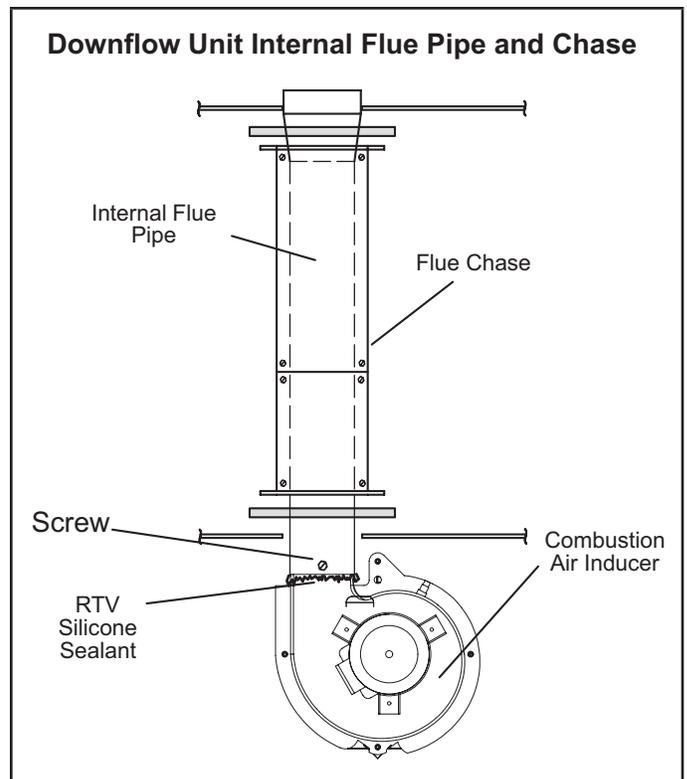

FIGURE 3
- 12 - **DF Units Only** -- Scrape away existing Silicone sealant from the internal flue pipe. Apply RTV/high temperature silicone sealant between the internal flue pipe and the combustion air inducer. See figure 3.